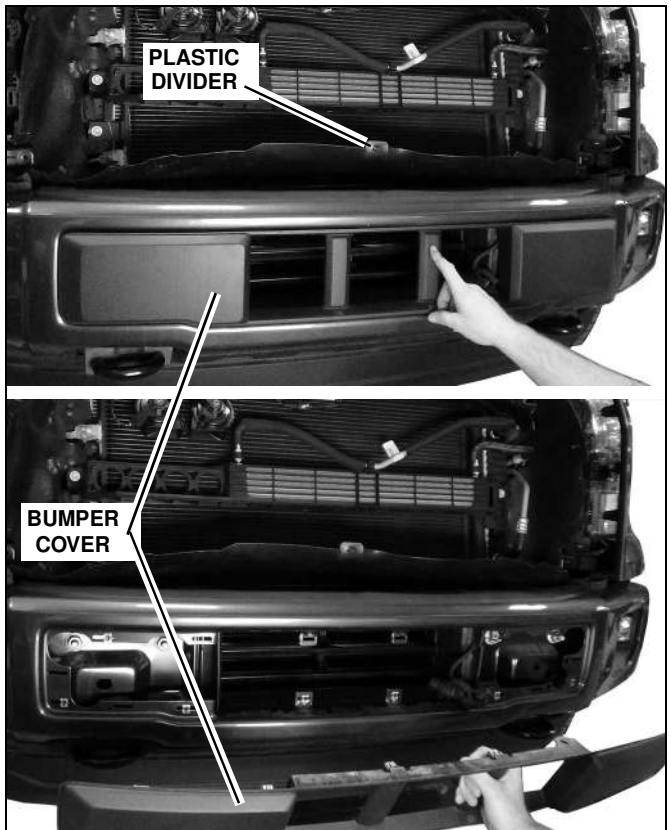

Figure 9
5. Remove the plastic fasteners holding the plastic divider to the bumper and pull the front bumper cover straight out of the bumper. (See Figure 9)